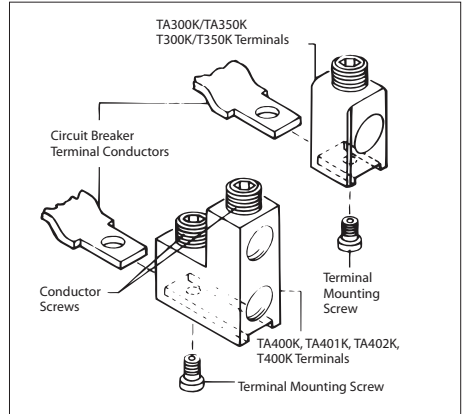

Figure 4. Terminal Installation Positions.
2.5 Mount terminals as shown in Figure 4. Secure the terminals to the circuit breaker using a 7/32-inch socket wrench, and torque to 6-8 lb-ft (8-11 N.m). After mounting the circuit breaker and before installation of the conductors, the terminal mounting screw can be checked or retightened through the terminal when the conductor screw is removed. If warning label is supplied with terminal, place on upper portion of circuit breaker cover.